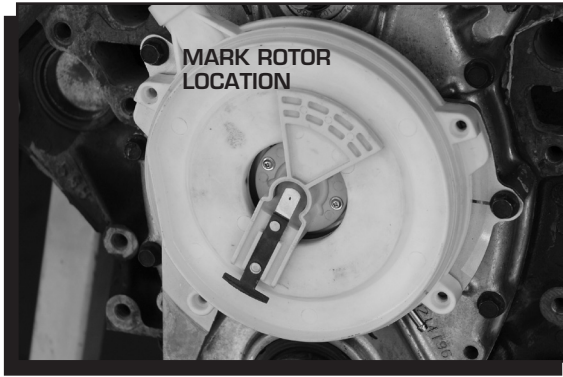
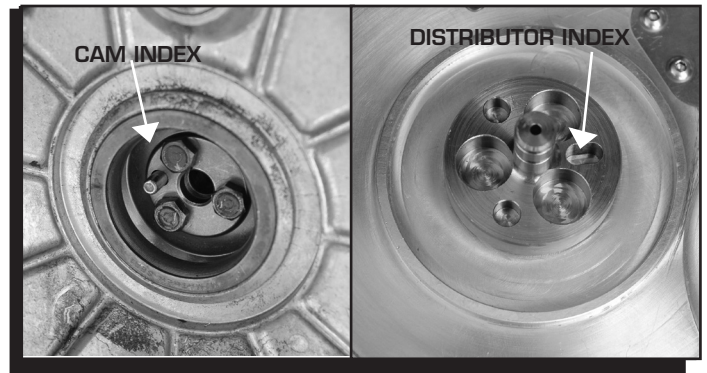

Figure 8 Rotor Location.
Figure 10 Indexing the Cam and Distributor.
and pull the cap off (Figure 7). Mark the location of the rotor. This will help ensure the proper location of the new distributor (Figure 8).
18. Notice the indexing pin on the camshaft (Figure 10). Be sure to align the new distributor with the pin on the cam. The rotor should come to rest in the same location as it did in Figure 8.